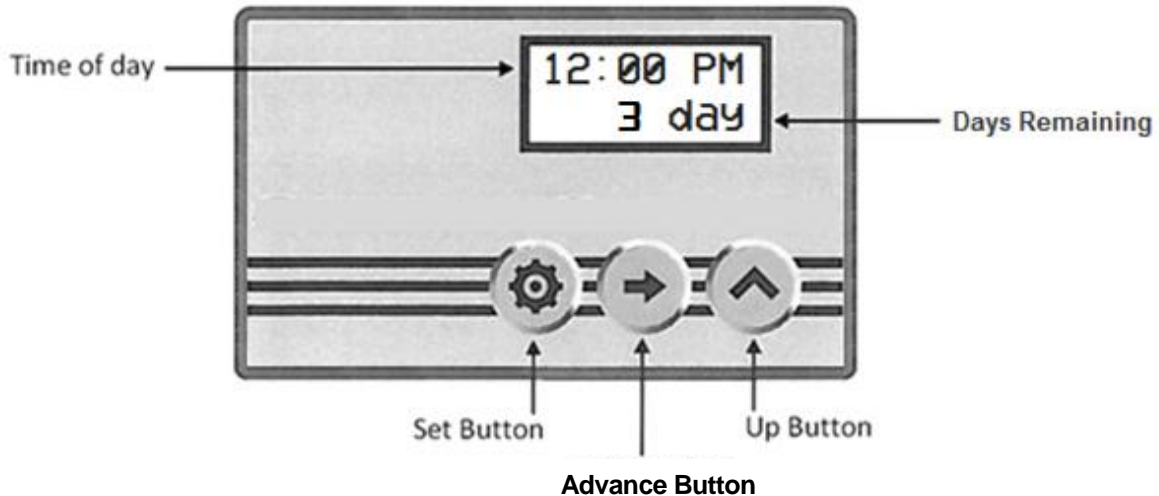

FIGURE 6: 2PE Display Panel
- 2PE units are in service when the time of day is displayed above the gallons remaining (see figure 6, page 11).
For model 2PE300 hold down the middle (Advance) button (figure 6, page 12) until “GO TO BW” is displayed. Once the unit is counting down the backwash cycle time, immediately unplug the control valve from the power outlet and leave the unit in backwash until the drain water runs clear. Then, plug the control valve into the power outlet again and press the middle (Advance) button briefly, “GO TO DR” will display. Allow the regeneration cycles to complete automatically before continuing to step 14.